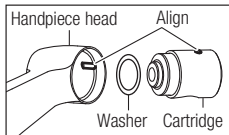

Fig. 22
- ⑦ Clean the handpiece head interior with NSK PANA SPRAY Plus.
- ⑧ Wipe the NSK PANA SPRAY Plus oil over the handpiece head interior.
- 9 Make sure that there are no old washer or foreign objects in the handpiece head before inserting a new washer (Fig. 22).
- 10 Insert the new cartridge into the handpiece head by aligning the pin on the cartridge with the slot on the handpiece head (Fig. 22).